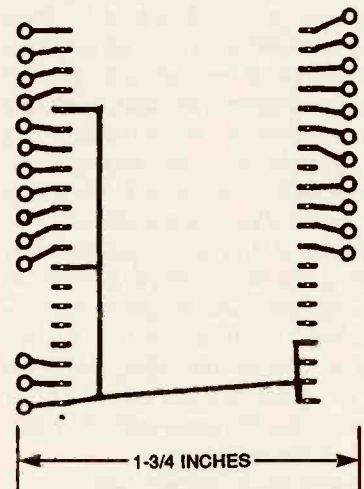

Fig. 5. The display board template is shown here.
4), and the display-module board (Fig. 5). The printed-circuit boards can be obtained from the source given in the Parts List, or you can etch and drill your own. Alternatively, the circuit can be hard-wired on one or more perfboards providing that proper orientation of the accelerometer is maintained, as explained later.